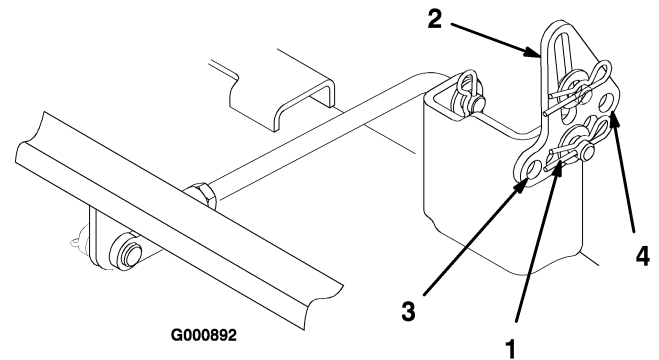

Figure 43
5. Remove the hairpin cotter and washer from the leveling bracket (Figure 43). To level the blade(s), reposition the leveling bracket(s) in a different hole and install the washer and
hairpin cotter. (Figure 43). A front hole lowers the blade height and a rear hole raises its height. Adjust both sides as required.